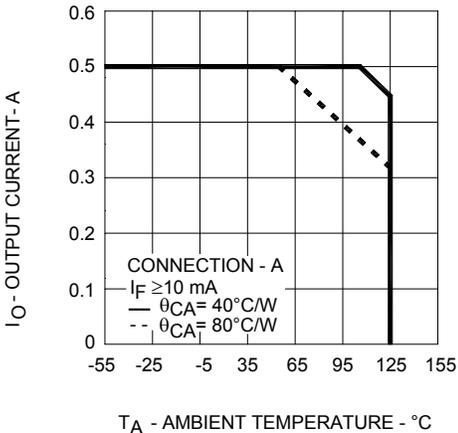

Figure 3. Maximum Average Output Current Rating vs. Ambient Temperature.
| Average Output Current, derated per Figure 3 | |
3. For rating, see Figure 5. The output power P_D rating curve is obtained when the part is handling the maximum average output current I_O as shown in Figure 3.